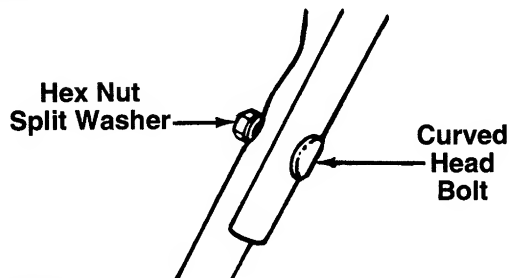

FIGURE 2.
2. Secure the upper handle to the lower handle using the curved head bolts, split washers and hex nuts as shown in figure 2.